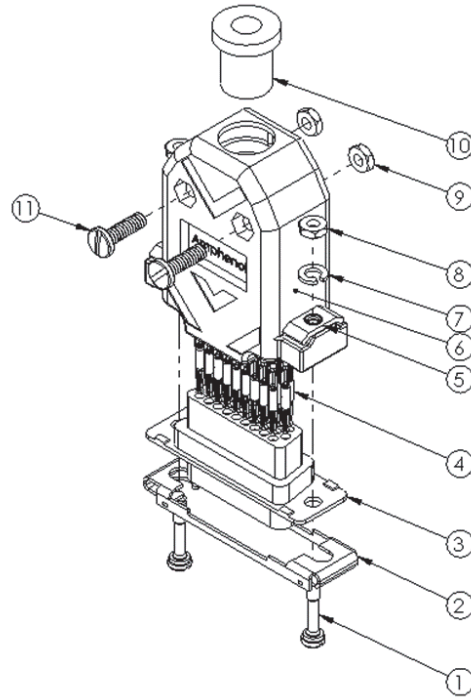

Figure 2.1
Construct the cable harness in accordance with the instructions below (see Figure 2.1). Installers should follow industry-accepted practices regarding aircraft wiring and applicable regulatory requirements and guidance. The instructions for constructing the cable harness as listed within this manual were also used to construct the harness during environmental and electrical testing. Alterations may invalidate environmental qualification and/or performance results. Refer to Section 2.3: Equipment Location for routing precautions.
To assemble the aircraft cable harness and Configuration Module refer to the following instructions and Figure 2.1:
4. Insert the pins (Item 4) of the cable harness into the rear of the 26-pin D-Sub connector (Item 3) per Table 2.1 and Figure 2.1 using an appropriate pin insertion tool.
5. Install the D-Sub connector with cable harness attached into the Backshell (Item 6) and secure with (2) screws (Item 11) and (2) nuts (item #9). Leave screws loose until step 7 has been completed.
7. Install the D-Sub connector using (2) screws (Item #1), through the D-Sub Backshell (Item #6), (2) Clamp Shims (Item #5), (2) lock washers (Item #7) and (2) nuts (item #8). Move the Slide Lock back and forth to verify free movement.